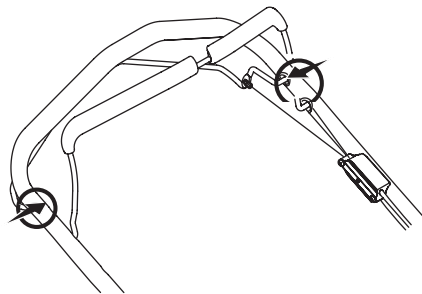

Figure 8
2. On 280 Series models equipped with a drive control, also lubricate pivot points on the drive control lever at least once a season with light oil. This control must operate freely in both directions. See Figure 8.
3. Lubricate the wheels at least once a season with light oil (or motor oil). If wheels are removed for any reason, lubricate surface of the axle bolt and inner surface of the wheel with light oil. See Figure 8.